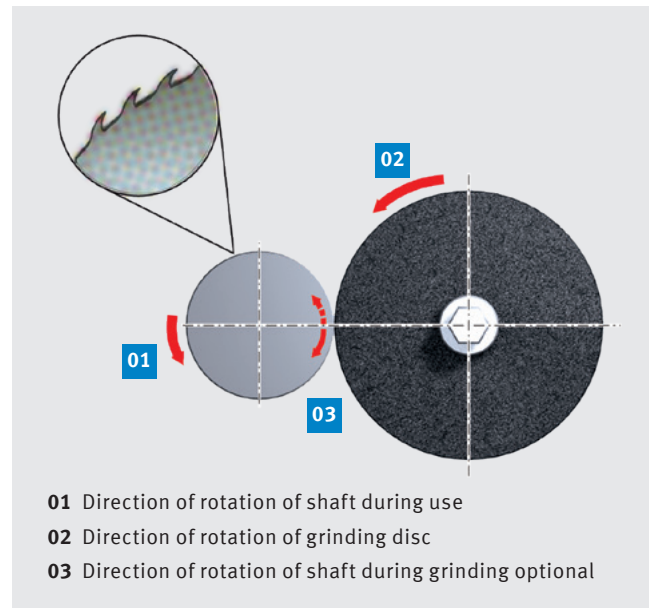

Fig. 43: Grinding a cast shaft
- Spheroidal graphite iron (GGG) has an open surface structure, and should therefore be ground to R_z 2 or better. Fig. 43 shows the direction of rotation of cast shafts in use. This should be the same as the direction of rotation of the grinding disc, as more wear will occur in the opposite direction.